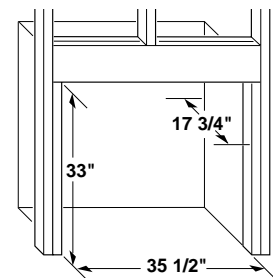
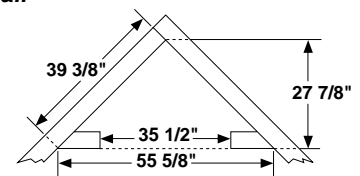

Figure 32 - Rough Opening for Installing in Wall
Figure 33 - Rough Opening for Installing in Corner
1. Frame in rough opening. Use dimensions shown in Figure 32 for the rough opening. If installing in a corner, use dimensions shown in Figure 33 for the rough opening. The height is 33" which is the same as the wall opening above.